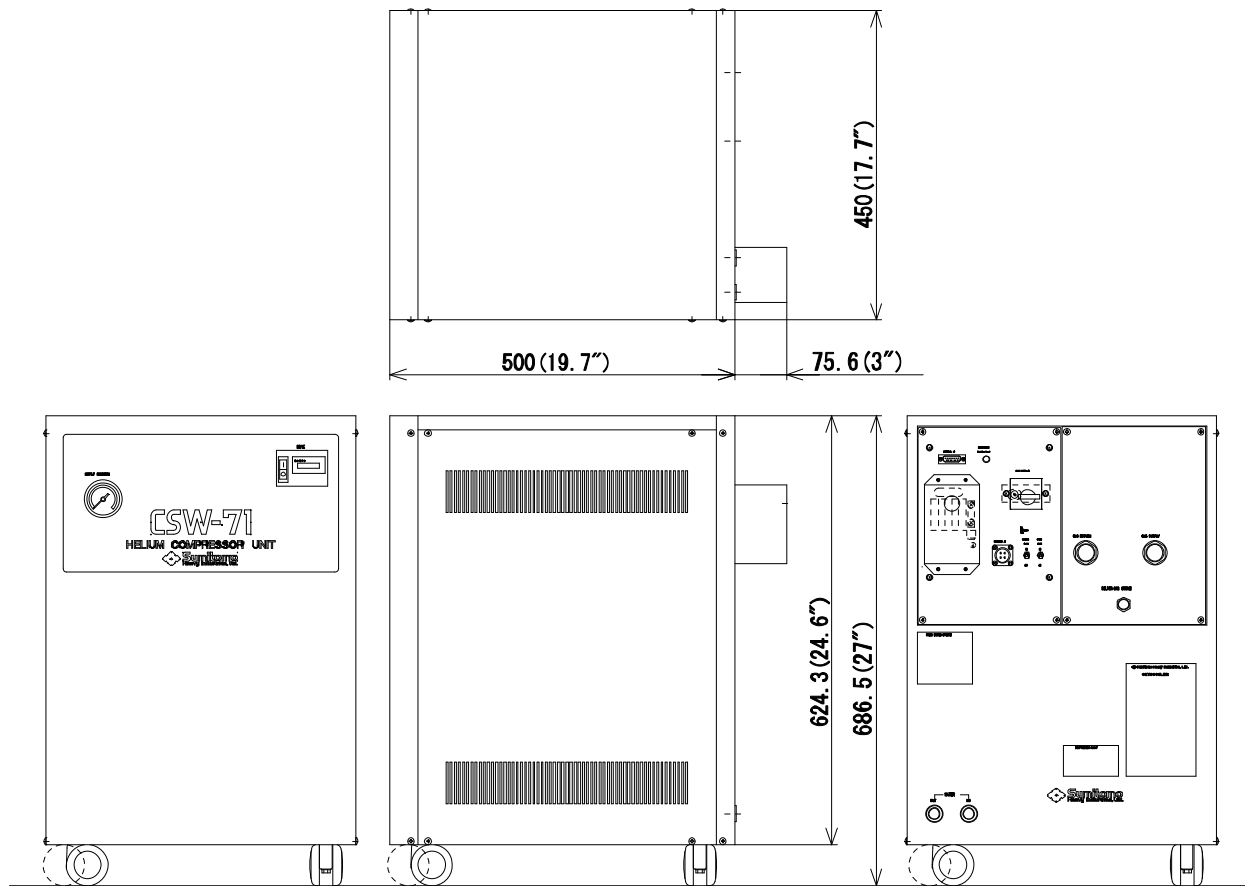

Figure 1.2 OUTLINE VIEW FOR CSW-71D COMPRESSOR UNIT
* Input Power Cable Terminal Cover is 98.0 mm. See the **Figure 1.2**.